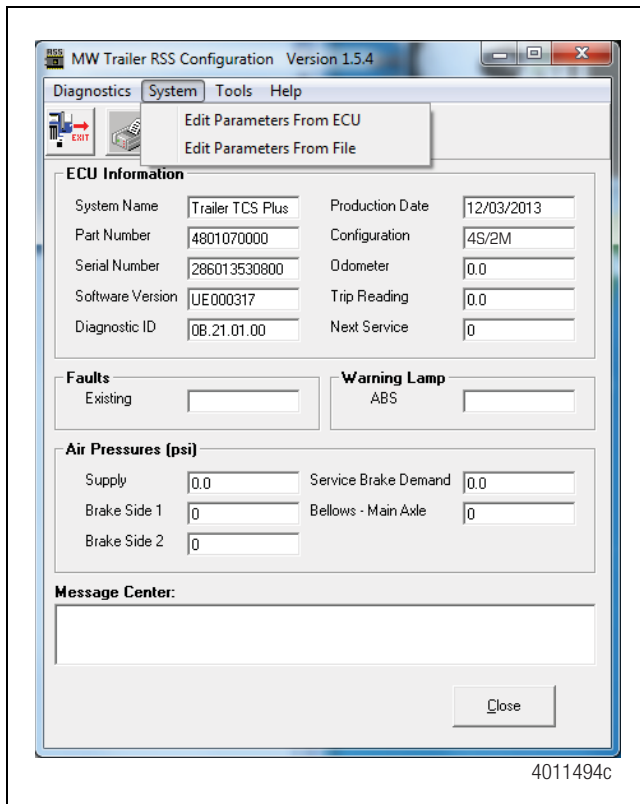

Figure 9
- Enter the Roll Stability portion of TOOLBOX™ Software. From the top menu bar, go to the **System** pull-down menu and select **Edit Parameters from ECU**. Figure 9.